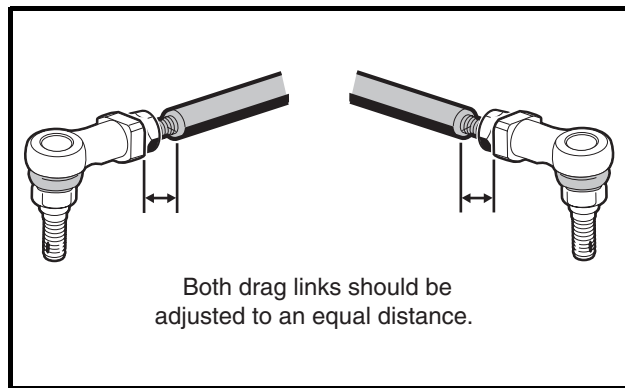

Figure 7-26 Adjust Toe-in
- 6.3. Rotate both of the ball joints an equal amount. To increase the toe-in, rotate both of the ball joints counterclockwise. To decrease the toe-in, rotate both of the ball joints clockwise. Maintain an equal distance from the ball joint to the end of the threads on each drag link (**Figure 7-26, Page 7-14**).